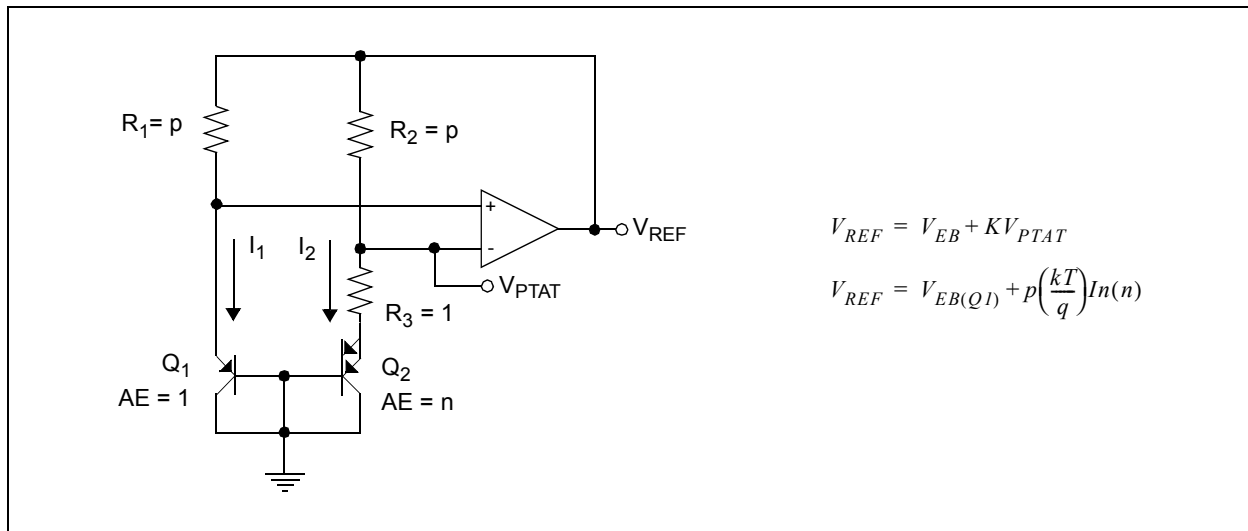

FIGURE 9: Band Gap Voltage Reference Building Block.
A simplified schematic of a band gap circuit is shown in Figure 9. This circuit is based on the principle that the magnitude of currents I_1 and I_2 are proportional to the size of the emitter area (AE) of the transistors. A 1.250V reference voltage (V_{REF}) will be produced if the